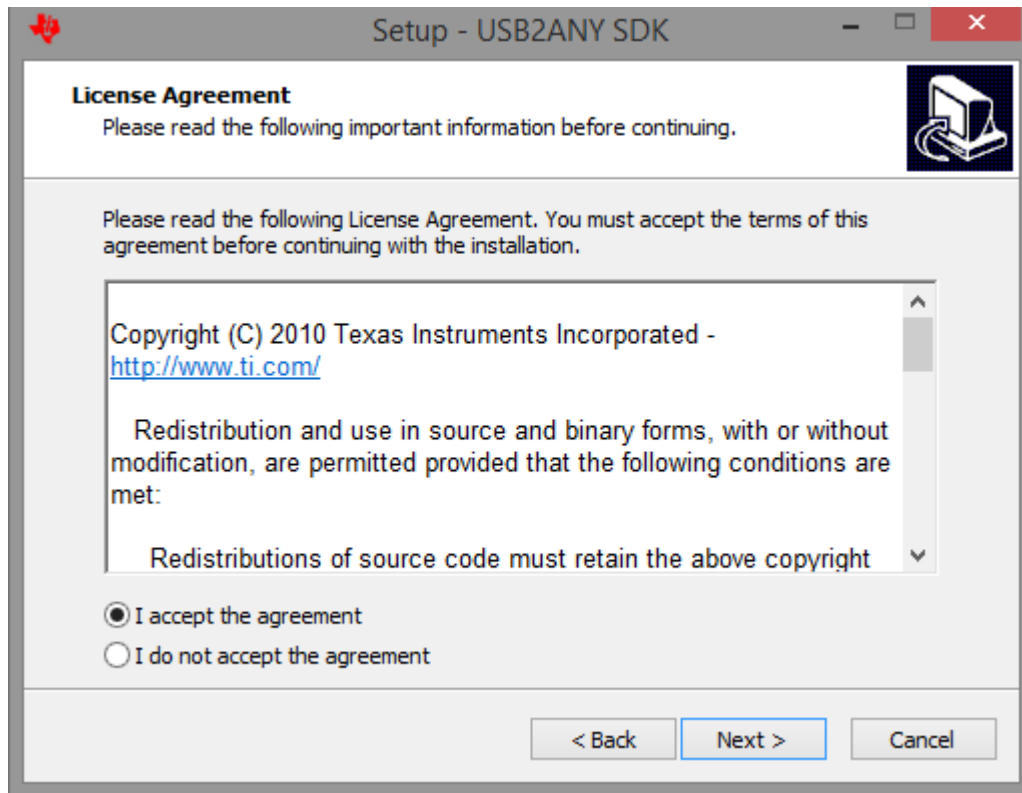

Figure 1-15. USB2ANY License Agreement
- The license agreement appears as shown in Figure 1-15. Read through the agreement, enable the “I accept the agreement” radio button, and click the **Next >** button.